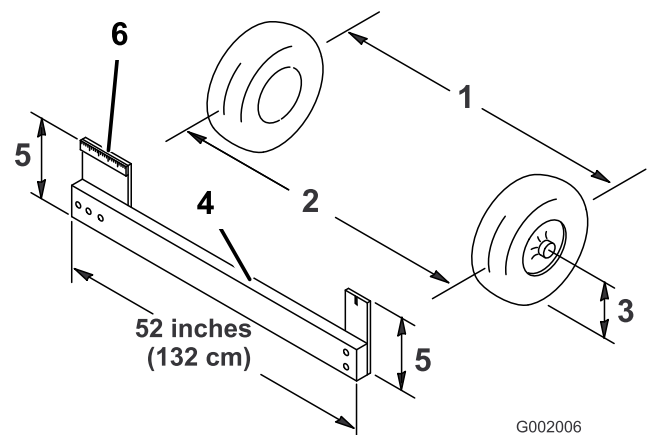

Figure 60
4. Measure the distance between both of the front tires at the axle height at both the front and rear of the front tires (Figure 60). A fixture or alignment gauge is needed for the rear measurement of the front tires at axle height. Use the same fixture or alignment gauge to accurately measure the front of the front tires at axle height (Figure 60).